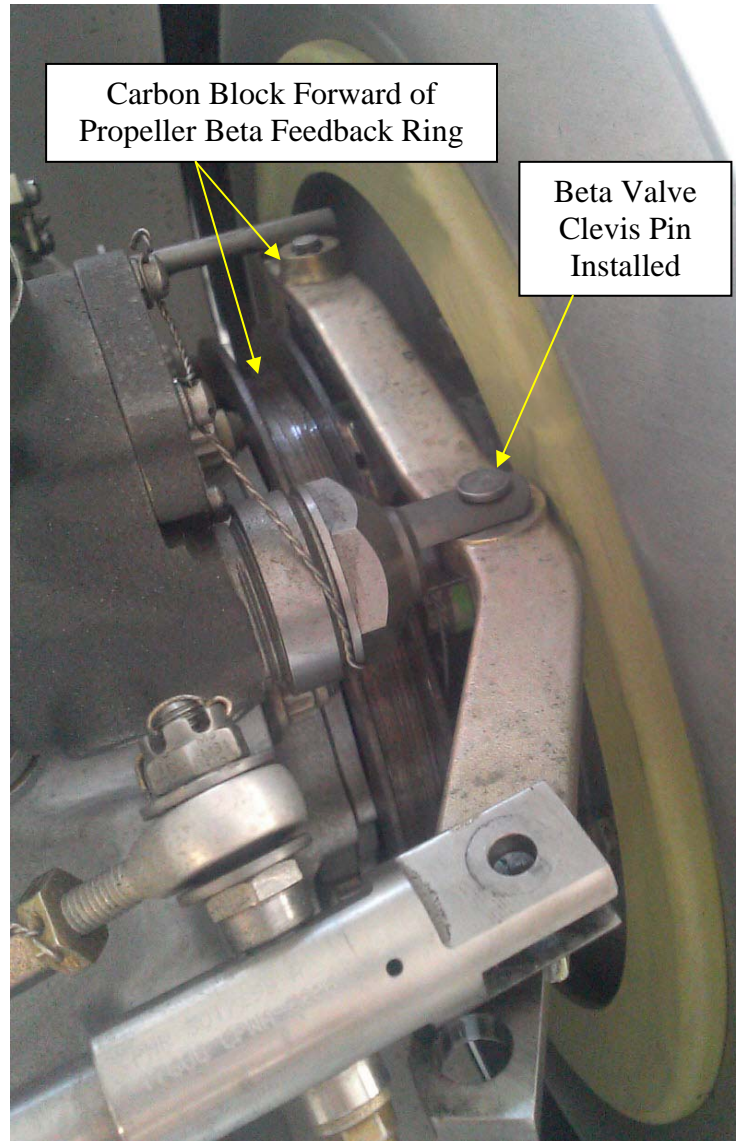

Figure 5-7: Beta Arm In Position For Clearance Inspection
- b. Lift the carbon block out of the propeller beta feedback ring and move the carbon block forward of the propeller beta feedback ring. Refer to **Figure 5-7**.
Refer to **Figure 5-7**.
1. Remove the beta valve clevis pin. Refer to **Figure 5-7**.